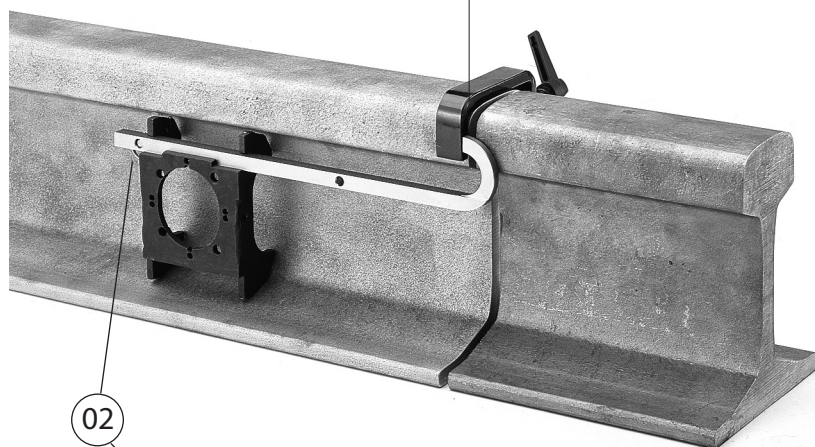

FIG.15 – ASSEMBLY OF THE MRF CLAMP
- 10.2.2) Fit the **MRF** clamp on the head of the rail, keeping it in contact with the rail head at the reference point of the drilling centres. Lock it in position with the lever. The lever is provided with a return pushbutton for moving in any direction after locking (See Fig. 15).